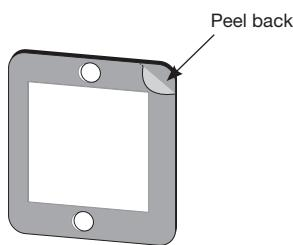

Fig. 7A
1. Carefully remove adhesive backing from the gasket (Fig. 7A).